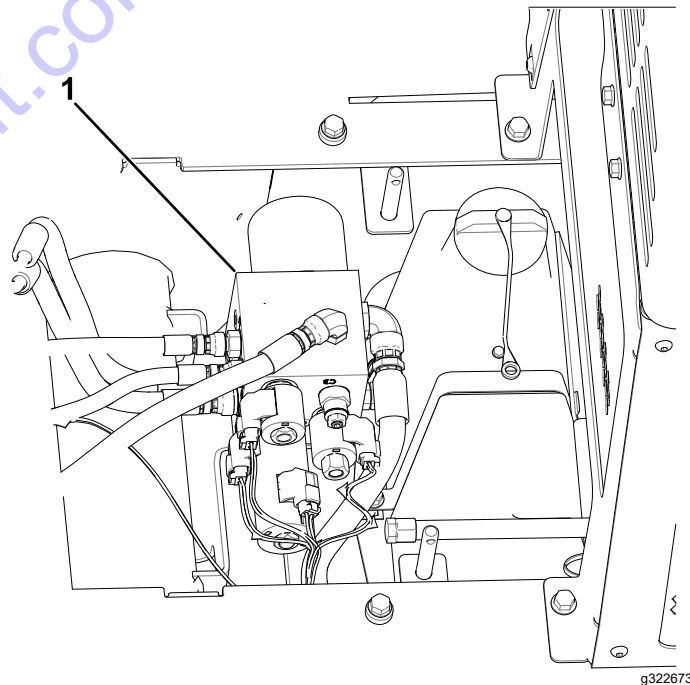

Figure 12
3. Place a large drain pan under the hydraulic-manifold block (Figure 12).